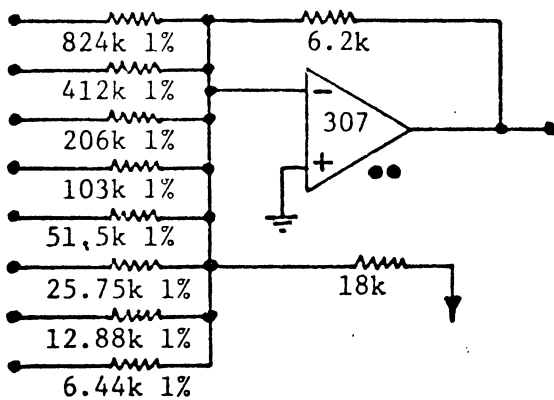
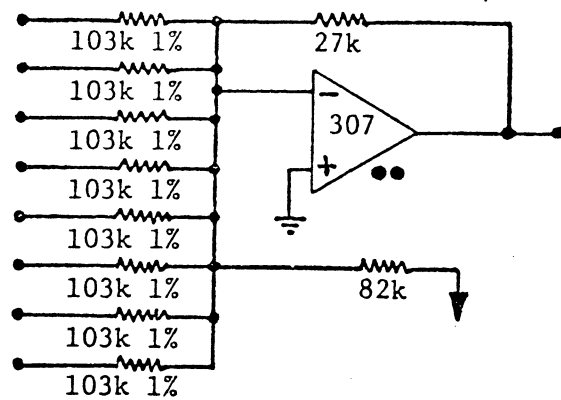

Fig. 8a Standard Binary Weighting
Fig. 8b Uniform Weighting
Two circuits for D/A converters for the digital noise source are shown in Fig. 8a and Fig. 8b. These circuits should be interfaced with the 74164 using some sort of CMOS chips (inverters are fine - the inversion makes little difference with noise sources). The CMOS gives better defined digital levels. I used 74C00 chips for my interface, and the 103k resistors used just happened to be some I had on hand. You can scale the whole network for whatever you have on hand.
We have to consider here just what we expect to do with the random source to see what is required of the D/A's. In general, of course, we can not make 8 bit D/A's with 1% resistors (since 8 bits gives 256 levels). However, if the output of the source is to be used as audible noise, it is difficult to argue that errors caused by the 1% resistors will matter, since the effect of the errors is mainly additive white noise. Similarly, we would not insist that the op-amps in Fig. 2 be of the low noise type. What happens if we use the random source as a sequencer, driving a VCO for example. Ideally, the levels are equally spaced, and if we want 12-tone equally tempered scales, this gives about 120 levels over the audible 10 octave range. This is slightly less than 7 bits, and probably something like 6 bits or fewer is more like what we need for most musical purposes. We might therefore suppose that for sequencer operation, 6 bits could be used (see later design example), and that either the 1% resistors are close enough, or we could select, trim, or buy resistors of greater precision if necessary. If desired, the D/A converter used with the ENS-76 digital keyboard can be used in place of the one in Fig. 8a. This circuit is shown in EN#68 (16).
BINARY WEIGHTING (Fig. 8a) UNIFORM DIST.
UNIFORM WEIGHTING (Fig. 8b) GAUSSIAN DIST.